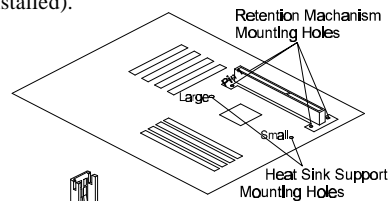

Figure 2-6
1. Finds out the Universal Retention Mechanism (URM) Mounting Holes of Slot1 on HOT-661 V main board. (Refer to Figure 2-6)